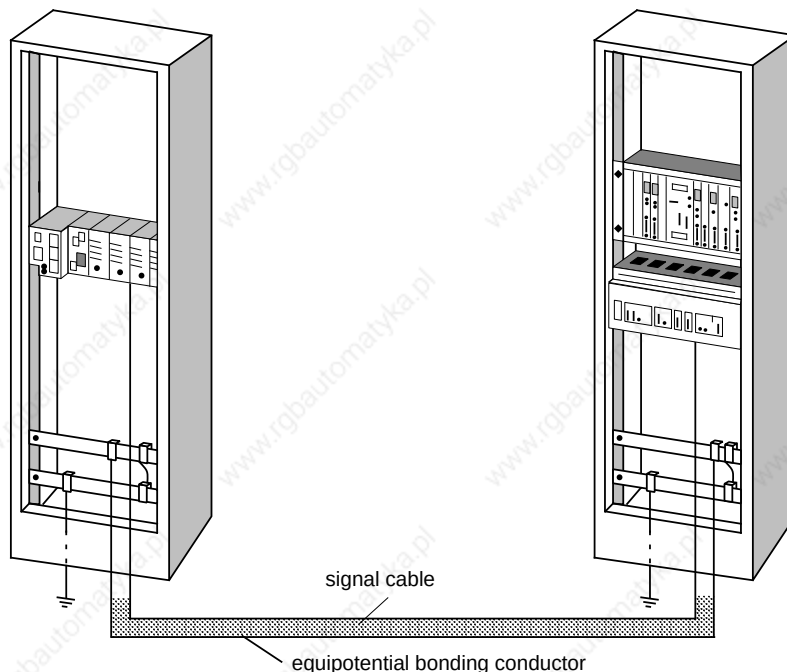

**Figure 3-31. Laying Equipotential Bonding Conductor and Signal Cable**
- The equipotential bonding conductor should be laid in such a way as to achieve a relatively small contact area between equipotential bonding conductor and signal cables (see Figure 3-31).